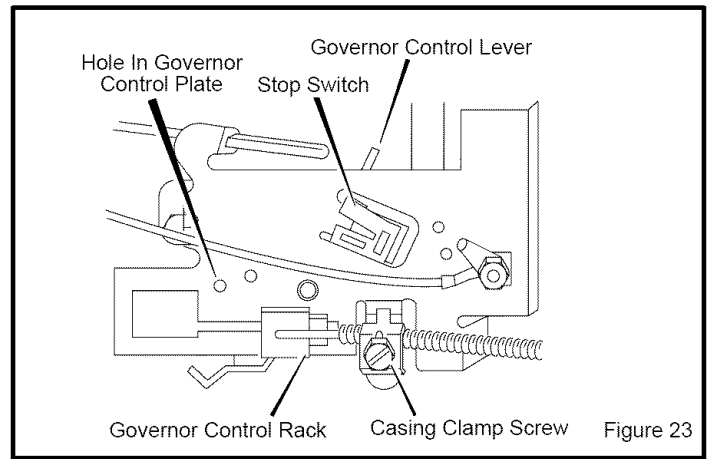

Figure 23
2. The hole in the **governor control lever** (located just behind governor control plate) must align with the hole in the **governor control plate** (see Figure 23).